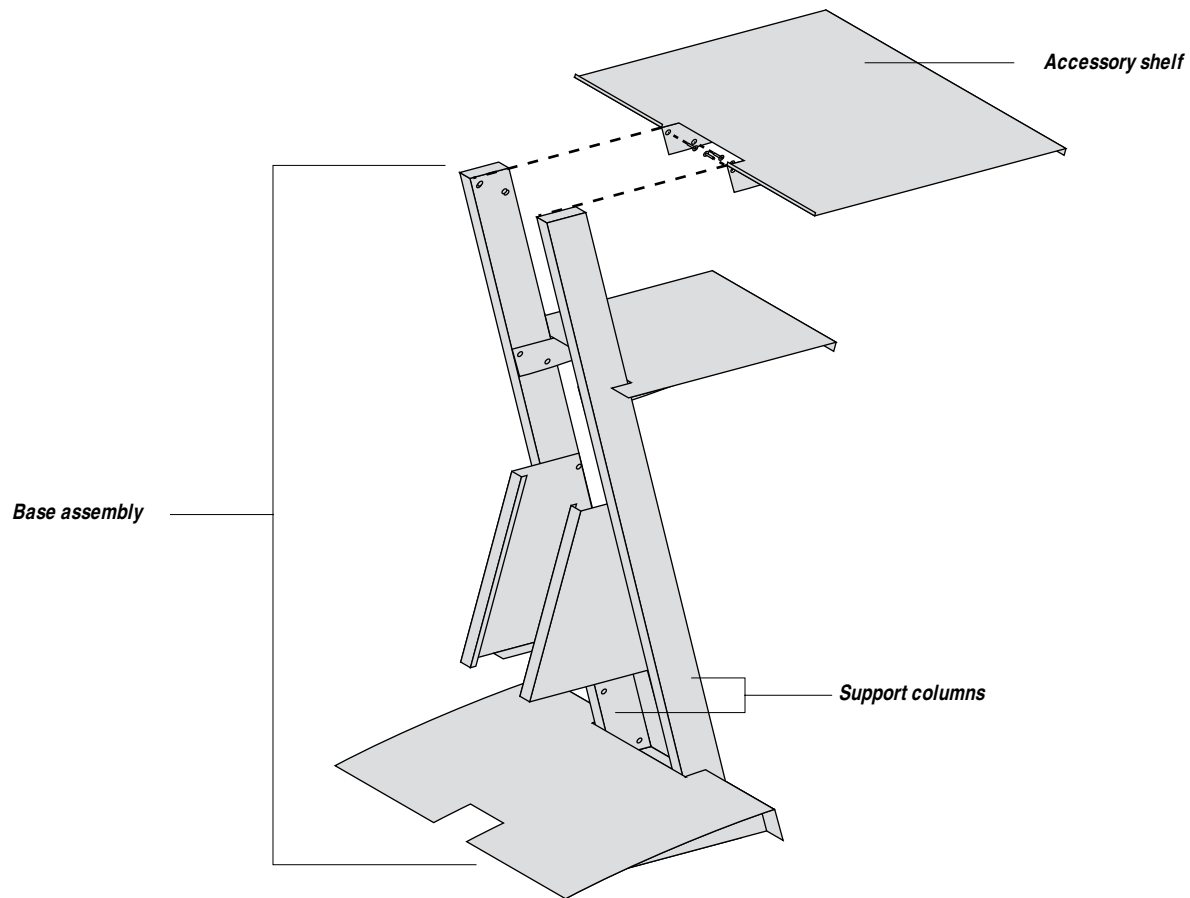

Figure B-2 Fiery XJ-R/R2 furniture — exploded view
4. *Attach the large accessory shelf to the support columns using the four flat-head screws (see Figure B-2 below).*